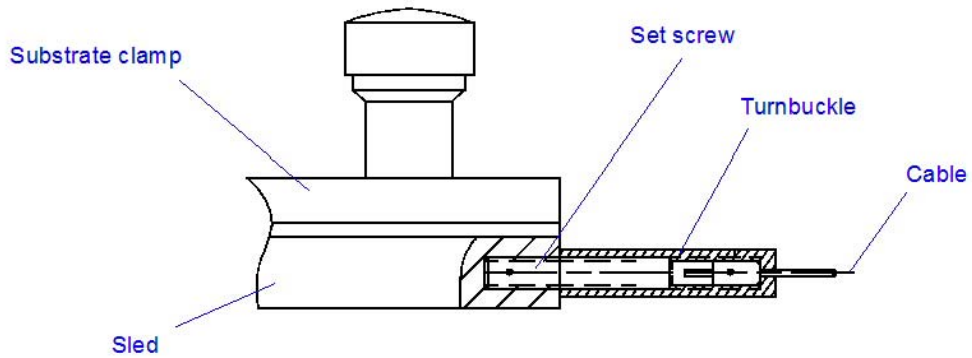

Figure 7. Attaching the Cable to the Fixture Sled
6. Connect the turnbuckle on the cable end to the set screw on the sled, as shown in Figure 7 on page 28.